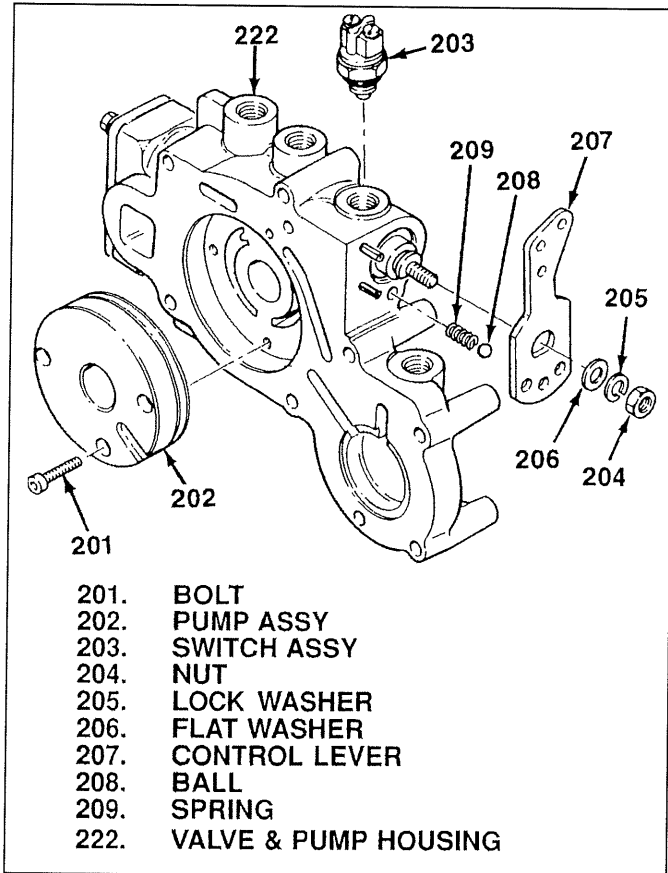

Figure 5-10: Control Lever, Switch and Pump
5-14 CONTROL LEVER, SWITCH AND PUMP ASSEMBLY With control valve installed in valve and pump housing, proceed as follows (see figure 5-10):
1. Temporarily install transmission shift lever (207) on control valve previously installed, aligning flats. Turn lever and valve up to installed position as shown in figure 5-10. Remove control lever.
2. Install spring (209), ball (208) and shift lever (207). Holding control lever in place, as shown in illustration 5-10, install flat washer (206), lock washer (205) and nut (204). Holding lever, torque nut to 14-16 lb-ft (19-22 Nm).
3. Install switch assembly (203). Torque switch assembly to 20-25 lb-ft (27-34 Nm).
4. Position pump assembly (202) in valve and pump housing assembly (222) with counterbored holes for bolt head out. Align all three bolt holes and install bolts (201). Torque bolts to 6-8 lb-ft (8-11 Nm).